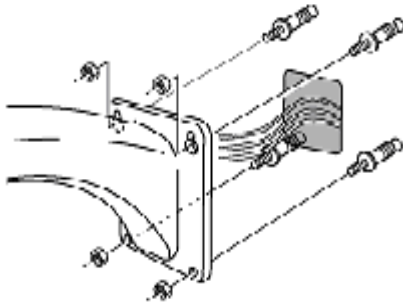

Figure 8
- a) Make four M8 holes in the wall, and put the four M8 bolts into the holes as Figure 8.
- b) Make a hole at the center of the four holes to connect the cable of the bracket as Figure 8.